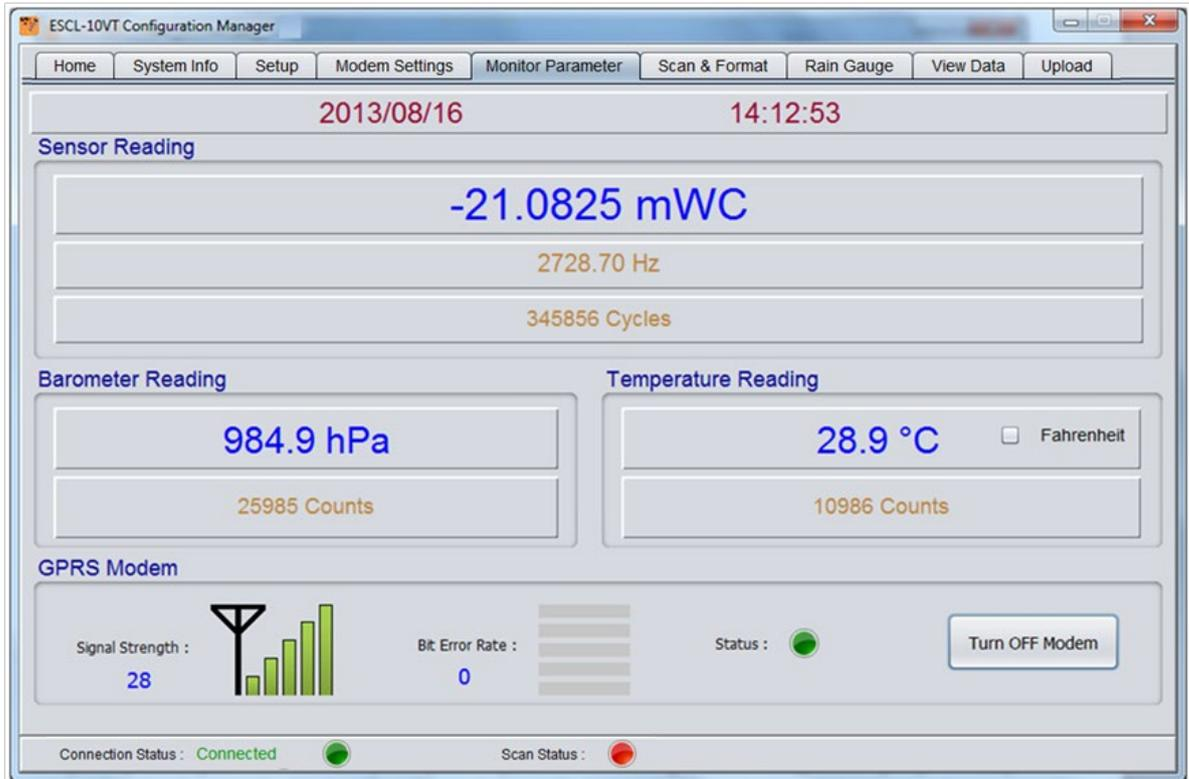

Figure 9-17: EWLR-101 Configuration manager – Monitor Parameter
d) Monitor section: All the parameters in this section are factory as shown in figure 9-17